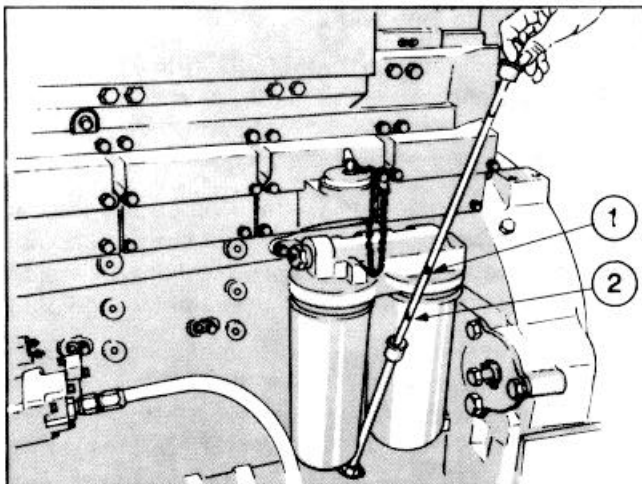

Fig. 1-8 (OM1005L). Checking engine oil level
A dipstick oil gauge is located on the side of the engine, Fig. 1-8. The dipstick has an "H" (high) (1) and "L" (low) (2) level mark to indicate lubricating oil supply. The dipstick must be kept with the oil pan, or engine, with which it was originally supplied. Cummins oil pans differ in capacity with different type installations and oil pan part numbers. Check the dipstick calibration. If in doubt, your Cummins Distributor